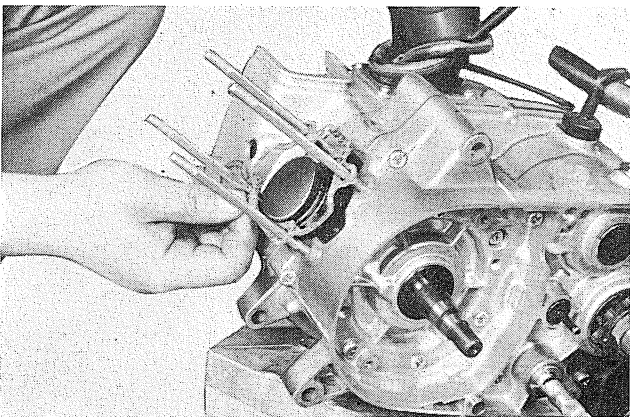

Fig. 3-3-3
- 1) Always use new cylinder gaskets when overhauling the engine. (Fig. 3-3-3)